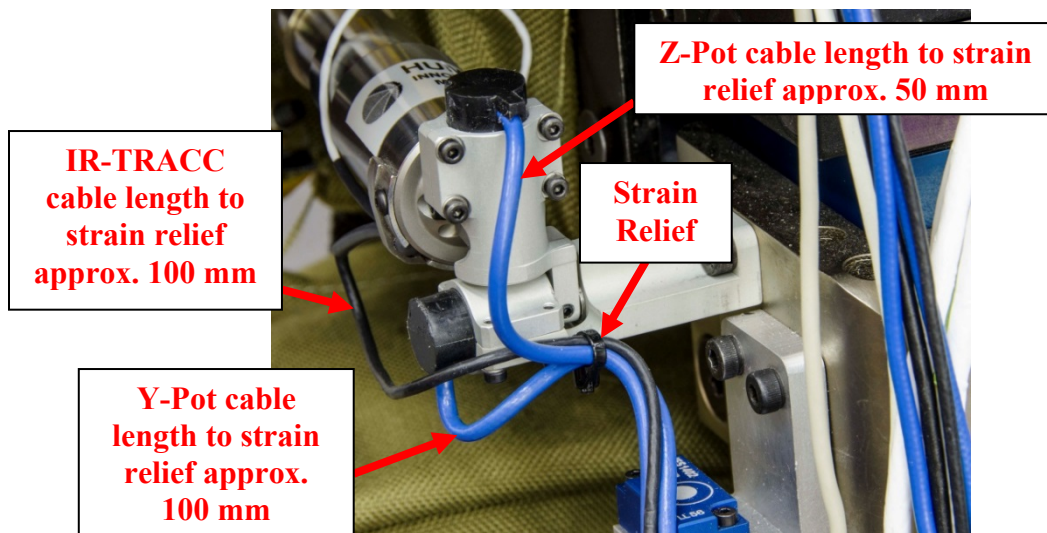
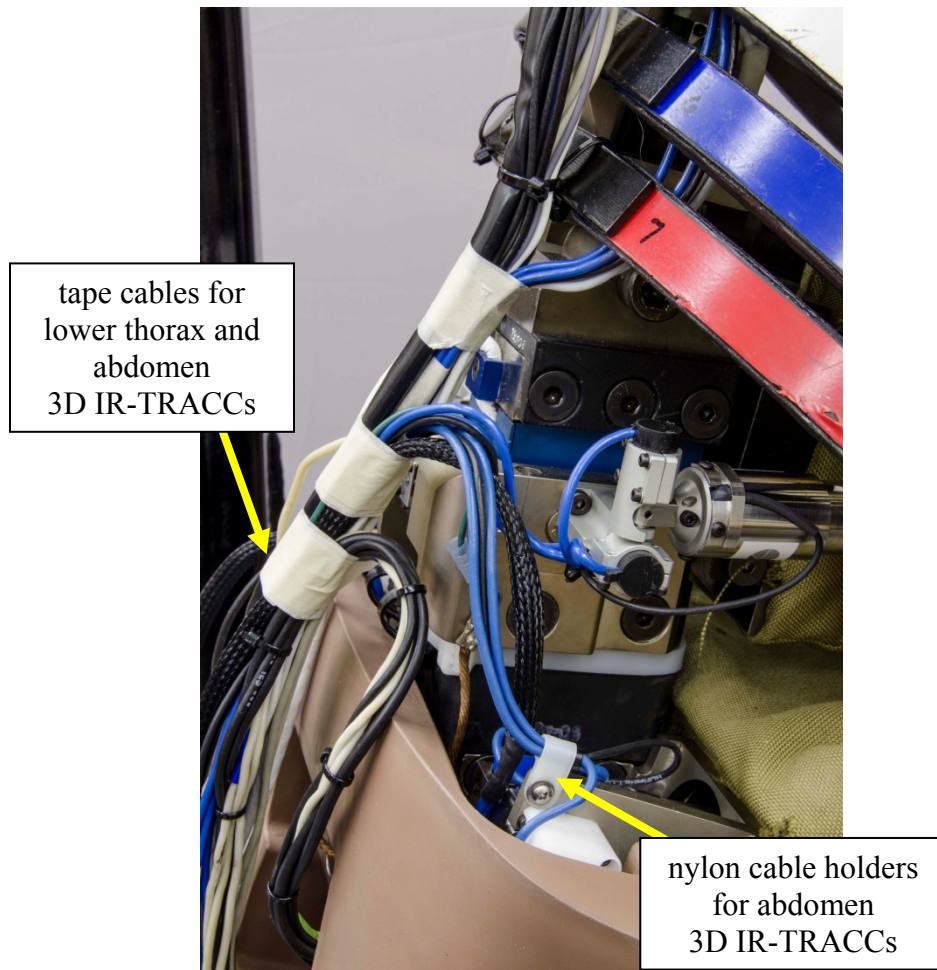

Figure 15-27. Strain relief for 3D IR-TRACCs (lower thorax IR-TRACC shown for illustration)
Figure 15-28. Secure wiring for abdomen and lower thorax 3D IR-TRACCs
15.4.2.7 Wiring protruding from each 3D IR-TRACC should have strain-relief as shown in Figure 15-27. Be sure to leave enough slack so that the 3D IR-TRACC can move freely about the Y and Z rotational axes without binding. As a guide for sufficient slack, Figure 15-27 shows reference lengths from the instrumentation housing to the strain relief.
- 15.4.3.1 Gather the cables for the lower right thorax IR-TRACC. As illustrated in Figure 15-27, the wiring from each lower thorax IR-TRACC and abdomen IR-TRACCs should be sufficiently strain-relieved to their respective 3D IR-TRACC units. The cables from the abdomen IR-TRACC potentiometers are held in place by nylon cable holders secured to the abdomen bracket (Figure 15-28). Use masking tape to hold the lower thorax 3D IR-TRACC and abdomen 3D IR-TRACC wires to the cable bundle from the spine.